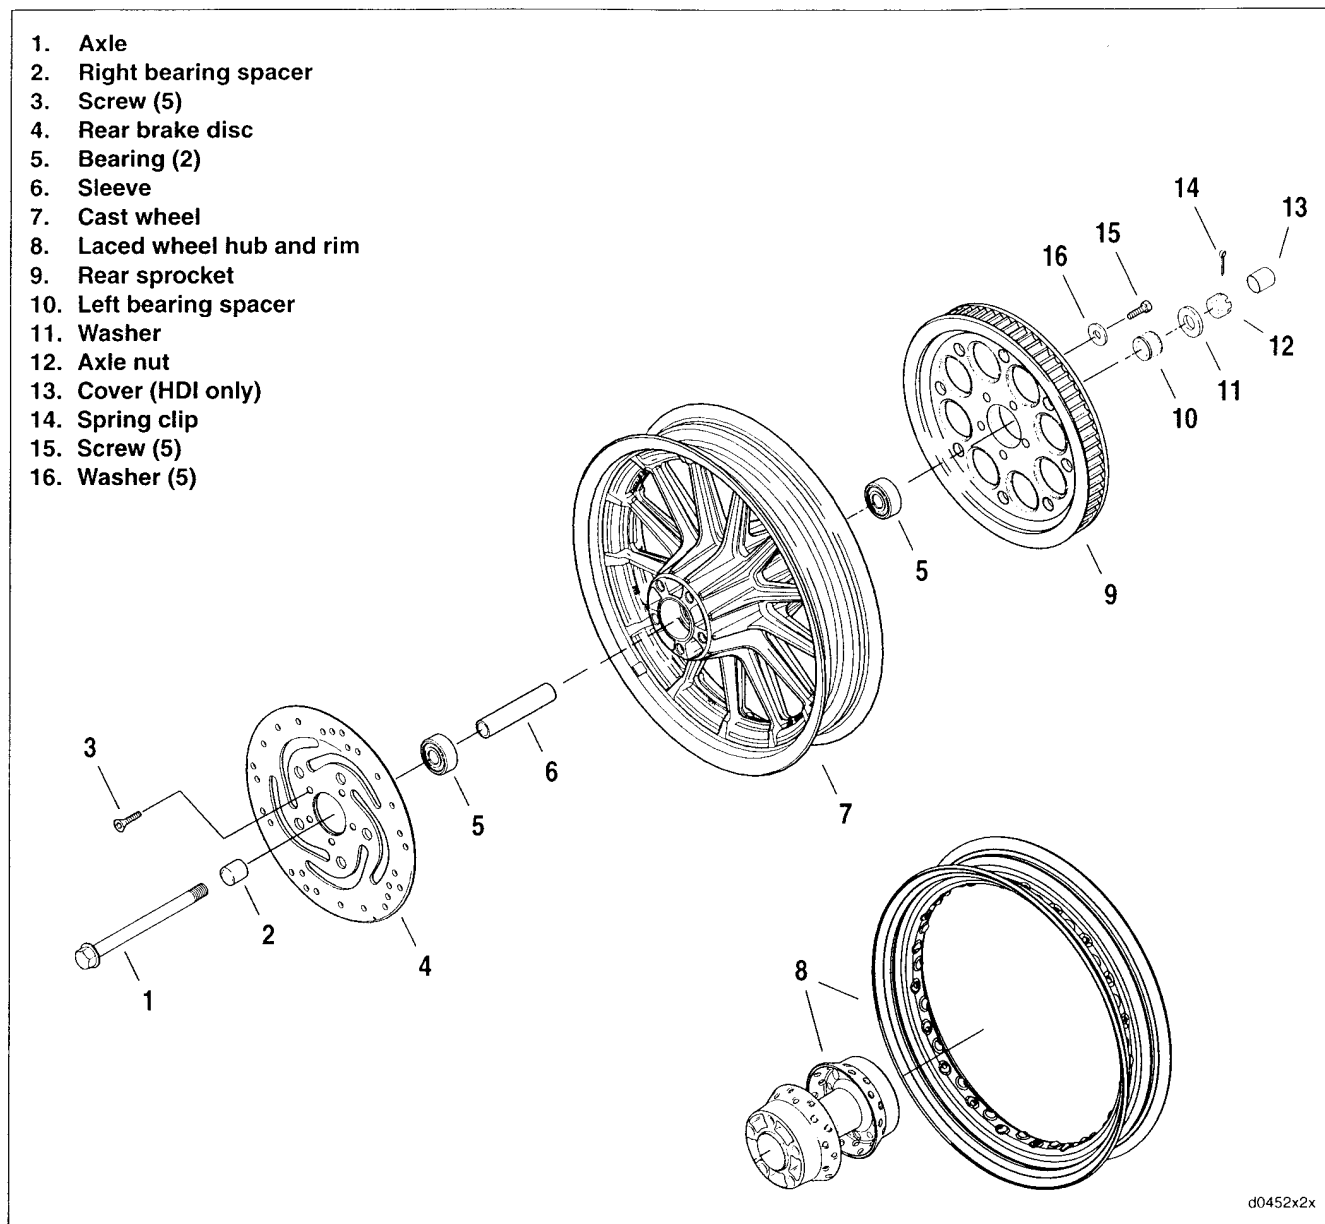

Figure 2-12. Rear Wheel/Hub
*With the exception of the sprocket screw washer (16), component parts for cast and laced rear wheels are identical.*
1. See Figure 2-12. Remove spacers (2, 10) from left and right sides.
- a. On left side of wheel, remove five screws (15) and washers (16) to detach rear sprocket (9).
- b. On right side of wheel, remove five screws (3) to remove rear brake disc (4).
2. See Figure 2-12. Install brake disc (4) on valve stem side of wheel if removed.
- a. Apply a drop of LOCTITE THREADLOCKER 243 (blue) to the five screws (3).
3. Install belt sprocket (9) if removed.
- a. Apply two drops of LOCTITE THREADLOCKER 262 (red) to the five screws (15). Install sprocket using screws (15) and washers (16).